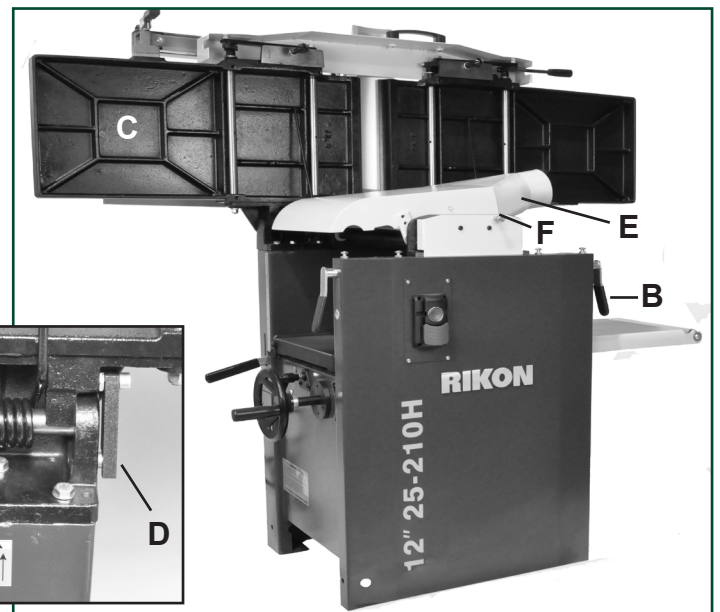

FIG. 46
To use the planer, the upper, jointer table & fence assemblies must be tilted up and out of the way. FIG. 46.
2. Twist the two clamping Handles (#12 & 39, FIG. 46, B) up and then pull them outward to release the jointer tables. Swing the table (C) and fence assemblies up and to the back of the machine. Make sure the table's Locking Block (#117, D) is engaged to keep the table in the upward position. **NOTE: When closing/lowering the table, don't forget to release the locking block, or damage to the machine may occur.**
3. Pivot the Dust Chute (#66, FIG. 46, E) up and over the cutterhead where it will automatically lock in place with the Locking Pin (#51, F). Attach your dust collector's 4" hose to the dust port before any planing is done.
NOTE: The Belt Lever for Planer Drive Rollers (#217, FIG. 46, G) must be set in the 'ENGAGE' position to activate the drive rollers.